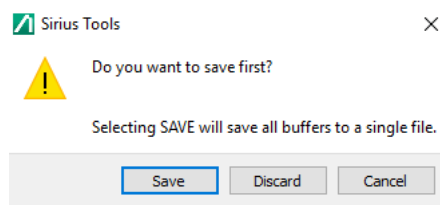

Figure 1-7. Clear History Dialog
1. Click Clear History will display the dialog shown in Figure 1-7.